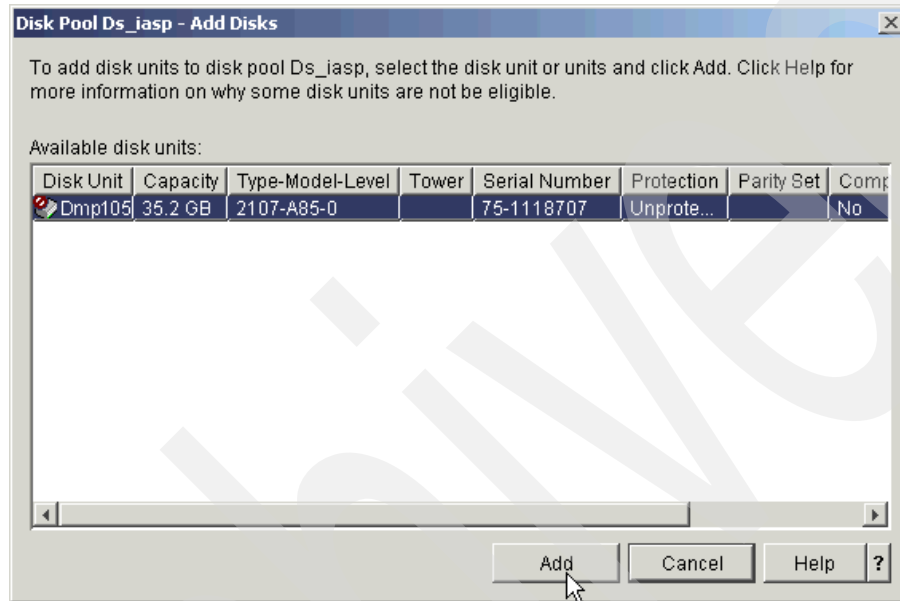

Figure 5-39 Adding a multipath volume
1. Follow the steps in 5.5.2, “Adding volumes to an independent auxiliary storage pool” on page 199. When you reach the point where you select the volumes to add, a panel similar to the panel that is shown in Figure 5-39 displays. Multipath volumes appear as *DMPxxx*. Highlight the disk or disks that you want to add to the disk pool and click **Add**.